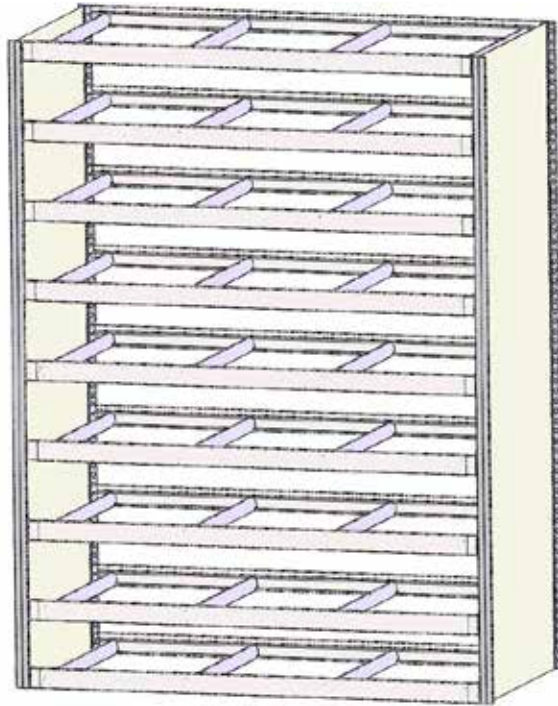

Fig.6
2. Install Wide Span Ties equally spaced throughout length as shown in Figure 6.